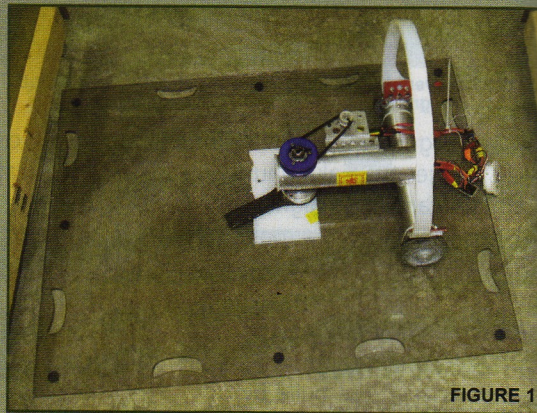

FIGURE 1
I used three sections of my Antweight arena with its 3/8" Polycarbonate (PC) walls as an enclosure, and used another old section of PC and some zip ties to secure the bot in a stationary position (Figure 1). I screwed a square of thin UHMW under the weapon's axle to reduce friction and to stop the axle from wearing a hole in the PC sheet.